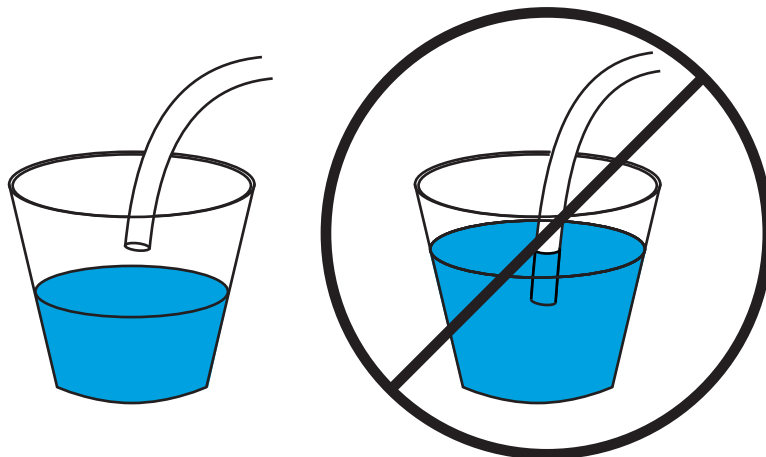

Figure 32 Drainage tube correctly hung (left) and incorrectly submersed (right)
- The open end of the tubing is not submersed in the drainage container (Figure 32).